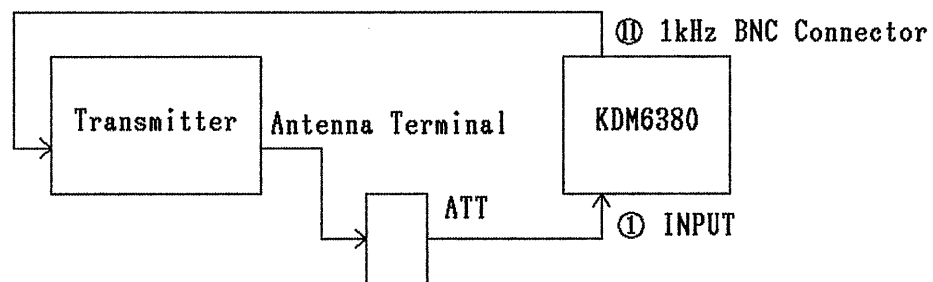

Fig. 4-8
1. Make connections as shown in Fig. 4-8.